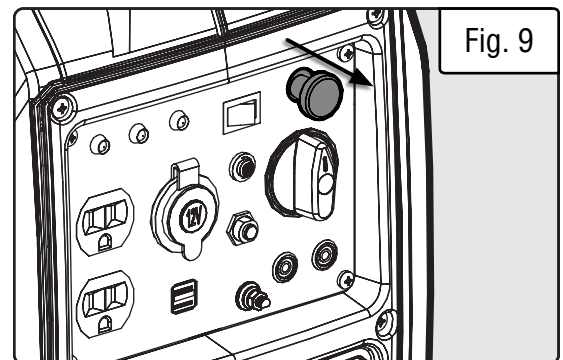

Fig. 9
9. Pull out the choke lever to CLOSE the choke valve (Fig. 9).